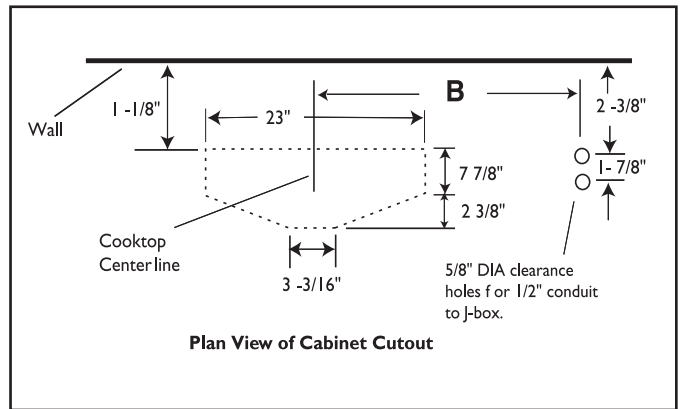

Figure 11 PH_Z
2. If the hood is installed for vertical discharge, use Figure 11 to create clearance holes for passage of the transition and conduit. Dimension A in Figure 11 depends on the hood model being installed and can be located in the table above.